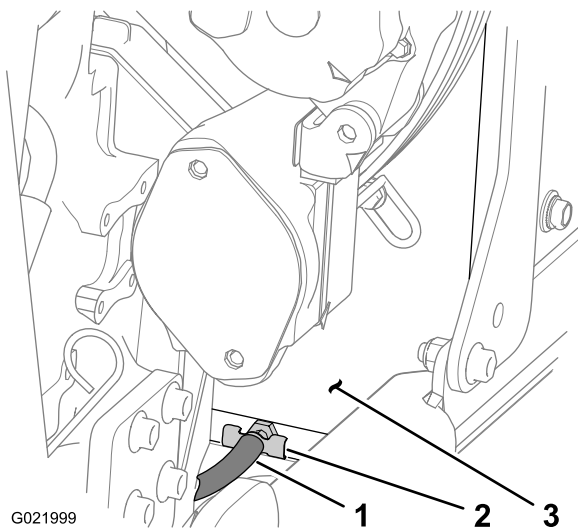

Figure 81
- Place a drain pan with a minimum capacity of 20 L (5.3 gallons) under the open end of the drain hose (Figure 81).
5. Close the drain valve (Figure 81).
- F. Open the drain valve and drain the cleaning solution into a drain pan (Figure 81).
- E. Open the drain valve (Figure 81) and drain the water into a drain pan.